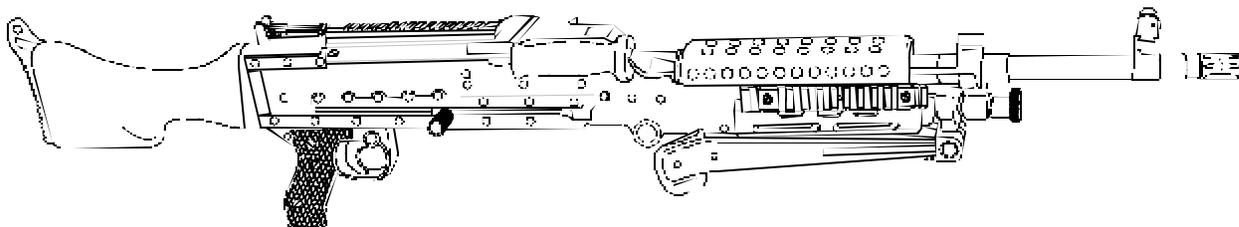

Figure 5
15. **MATERIEL CHANGE (MC) NUMBER.** MC number 1-01-05-0014 is required for this MWO.
16. **MODIFICATION IDENTIFICATION.** This MWO adds two forward rails for mounting a variety of different items. The rails will be mounted on the MG in place of the hand guard. See Figure 5 below for illustration of M240B MG after completion of this MWO.